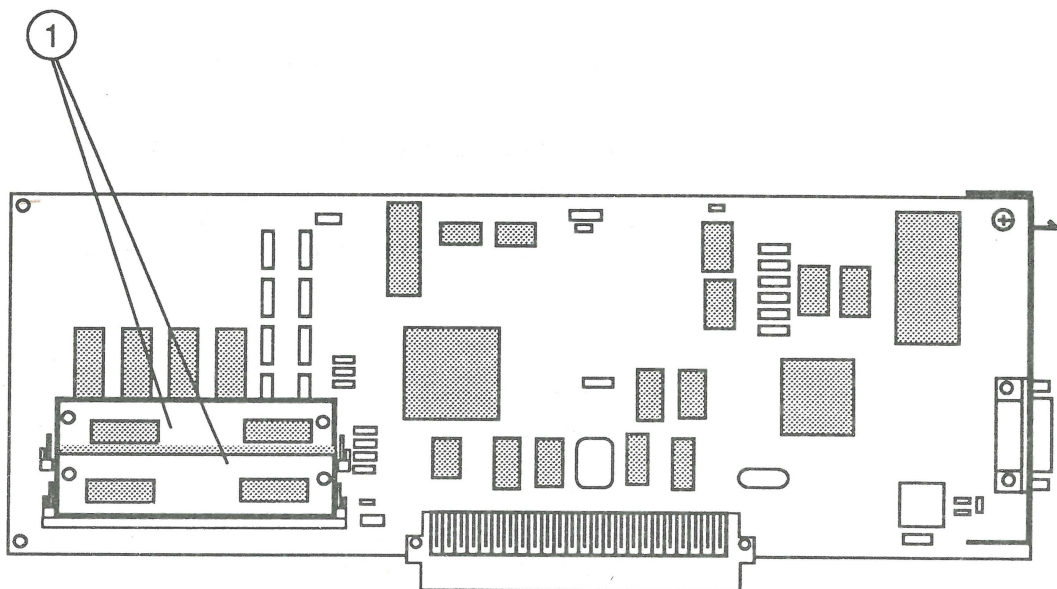

FIGURE 5
1. Install the two VRAM SIMMs in the socket locations on the video card (Figure 5, #1).